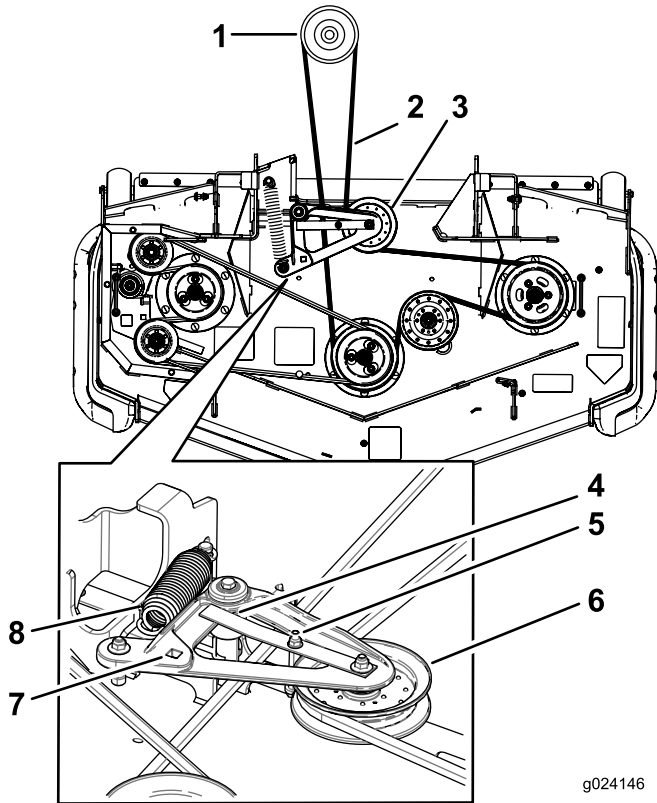

Figure 103
5. Lift up the floor pan and insert a ratchet into the square hole in the deck idler (Figure 103).
- Rotate the mower deck idler clockwise, lift up on the belt-guide tab and remove the mower deck belt from the clutch (Figure 103).